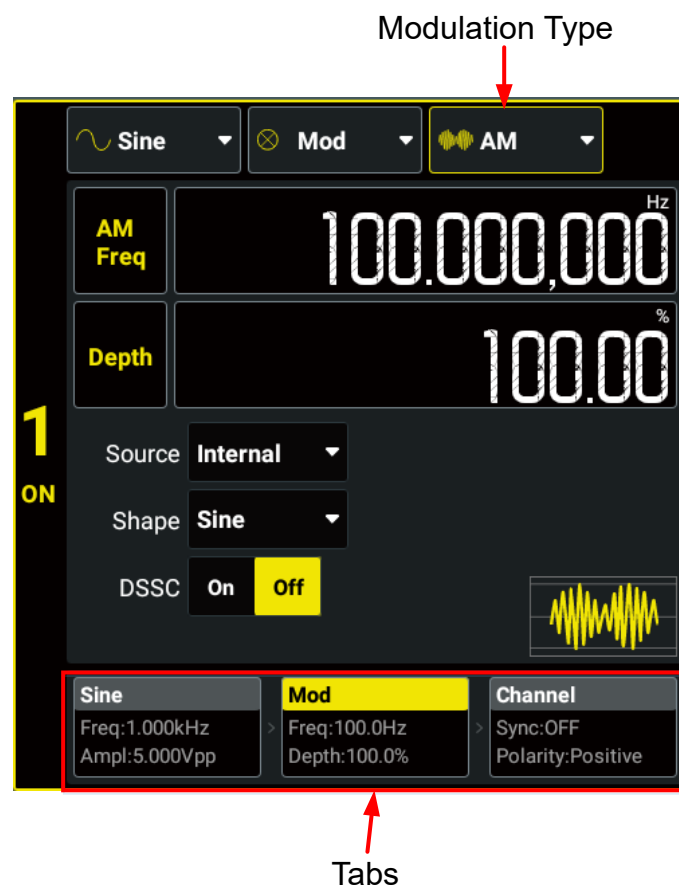

Figure 6.1 Modulation Setting Interface
Interface" (*Figure 6.1*), click or tap the "Modulation Type" drop-down button to select "AM" and set its parameters.
In Frequency Modulation (FM), a modulated waveform consists of a carrier waveform and a modulating waveform. The frequency of the carrier waveform is varied by the instantaneous voltage of the modulating waveform. In the "Modulation Setting Interface" (*Figure 6.1*), click or tap the "Modulation Type" drop-down button to select "FM" and set its parameters.
In Phase Modulation (PM), a modulated waveform consists of a carrier waveform and a modulating waveform. The phase of the carrier waveform is varied by the instantaneous voltage of the modulating waveform. In the "Modulation Setting Interface" (*Figure 6.1*), click or tap the "Modulation Type" drop-down button to select "PM" and set its parameters.
With Amplitude Shift Keying (ASK), you can configure the instrument to "shift" its output amplitude between two preset values (called the "carrier amplitude" and the "modulation amplitude"). In the "Modulation Setting Interface" (*Figure 6.1*), click or tap the "Modulation Type" drop-down button to select "ASK" and set its parameters.